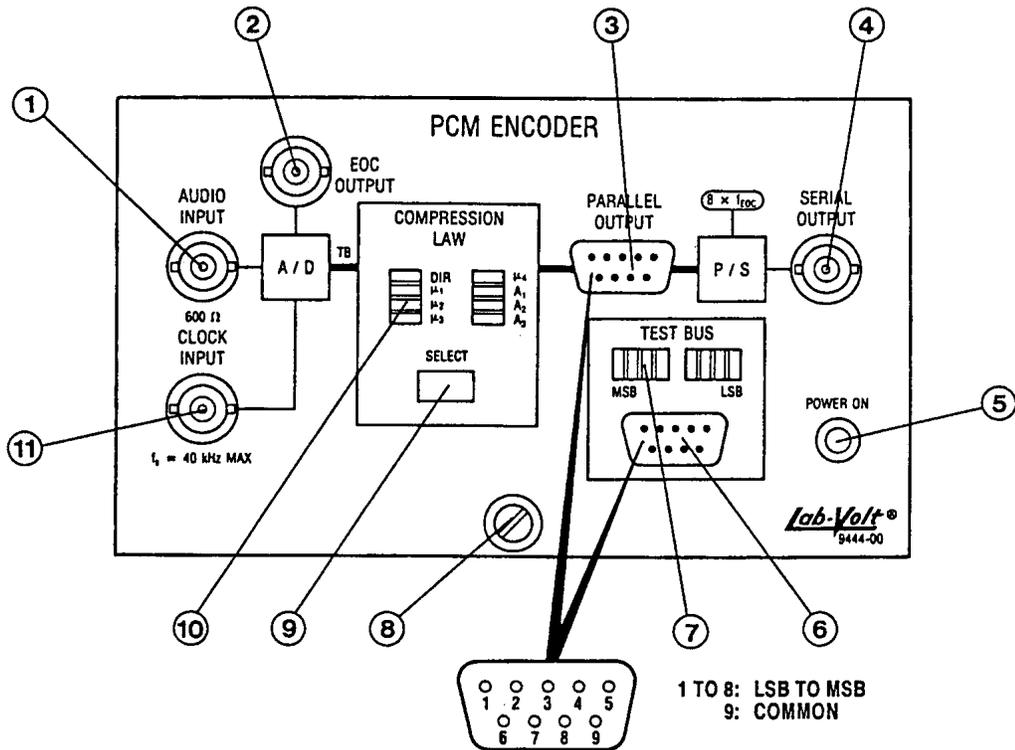

Figure 1. Front Panel of the PCM Encoder.
- 3 PARALLEL OUTPUT – This nine-pin connector provides the processed PCM signal. Its pin configuration is given in Figure 1.
- 6 TEST BUS output – This nine-pin connector provides the PCM signal coming from the output of the A/D converter. Its pin configuration is given in Figure 1